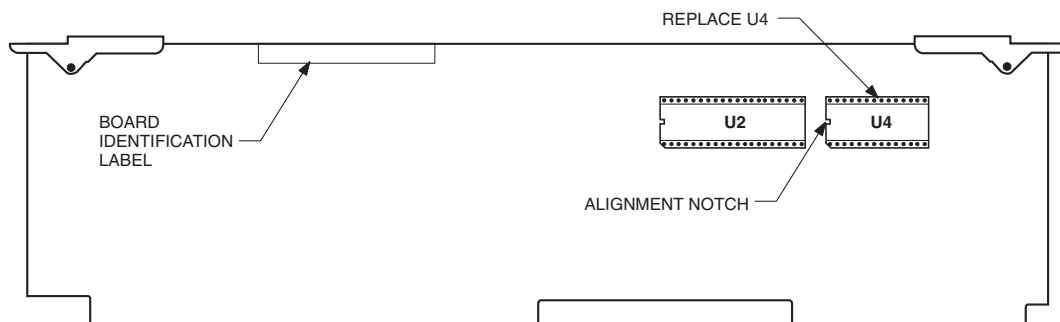

Figure 1. EPROM Replacement
5. Locate U4 (refer to Figure 1) and remove the EPROM from its socket.
7. Identify which board you have (refer to Figure 1), and select the appropriate EPROM:
9. Insert the new EPROM in the U4 socket. Orient the EPROM using the alignment notch as a guide (refer to Figure 1). Verify pin-to-socket alignment and carefully press the EPROM into the socket until it is fully seated.